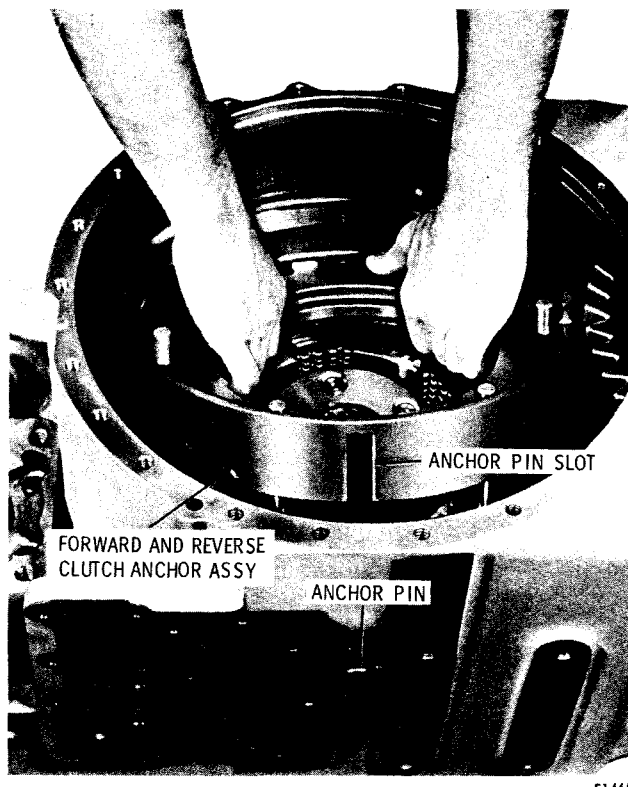

Fig. 7-3. Installing forward and reverse clutch anchor assembly
(4) Install the clutch anchor pin (fig. 7-3). Leave the anchor pin projecting from the housing (so that the anchor assembly may be rotated).
first. Engage the pins with the slots in the tangs of the reverse clutch plates (fig. 7-3). Align the anchor pin slot with the anchor pin. Be sure that all five external-tanged plates are engaged with the pins. Push the anchor pin into the housing to engage the anchor assembly.